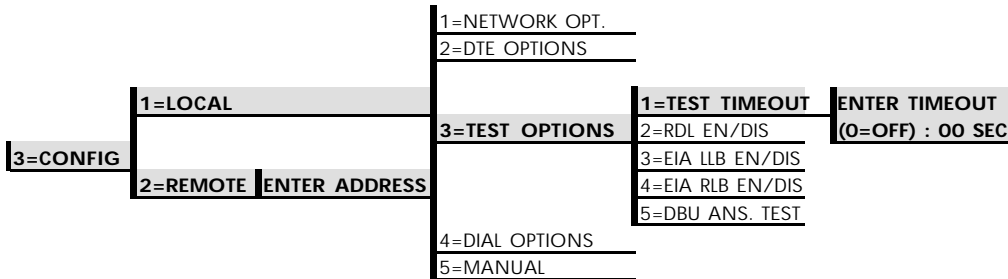

Figure 7-1
The Test Timeout option sets the length of time a DSU III DBU remains in a test mode before automatically returning to the data mode. Enter the timeout in two-digit decimal value. The factory default setting is off (0). Figure 7-1 shows the menu path used to access Test Timeout.